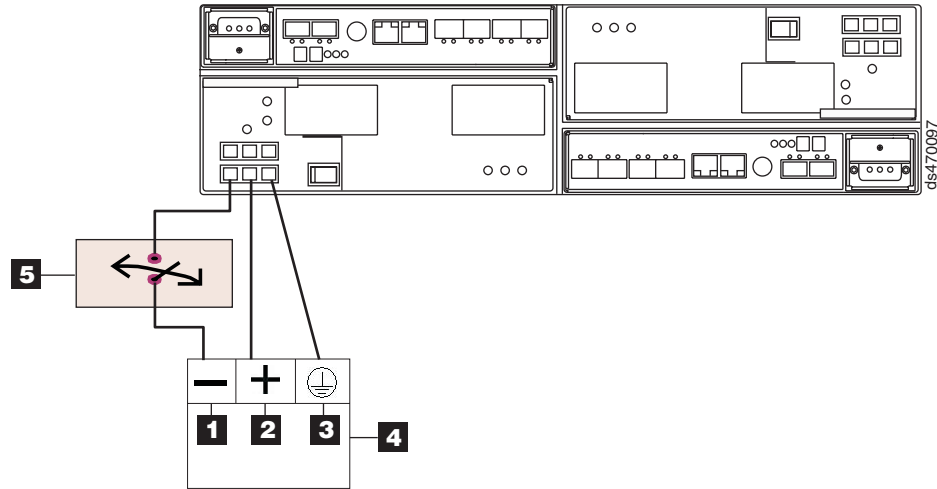

Figure 95. DC wiring from DS4700 Express to disconnect device and dc power source
4. Complete the wiring from the disconnect device to the terminal marked -48V of the Reliably grounded safety extra low voltage (SELV) dc power source. Connect the POS RTN and ground lines of the dc power cable to the terminals marked POS RTN and GND on the dc power source, as shown in Figure 95. For maximum protection against power loss, connect each of the two dc power supplies to a different power source.